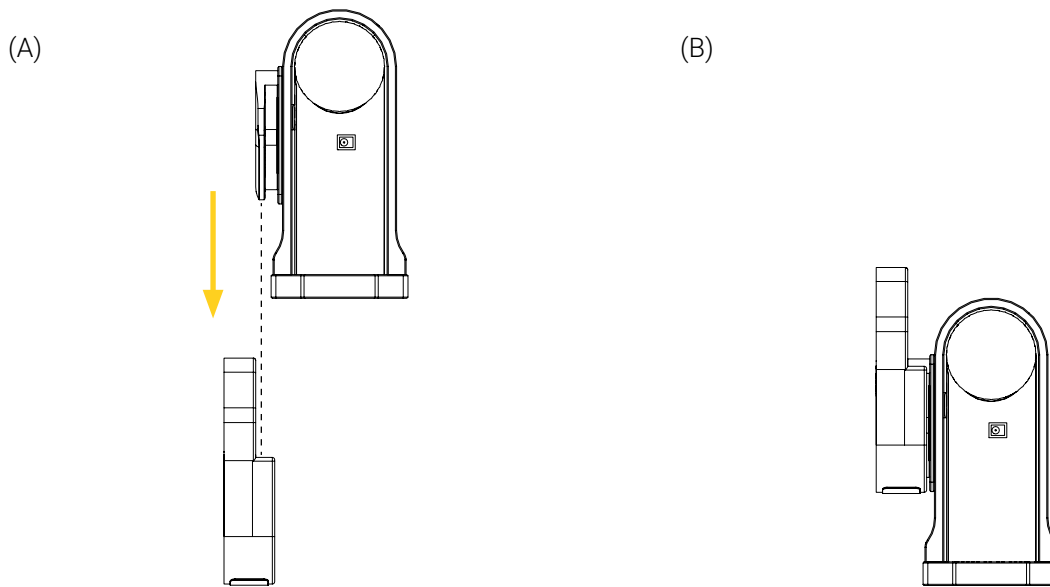
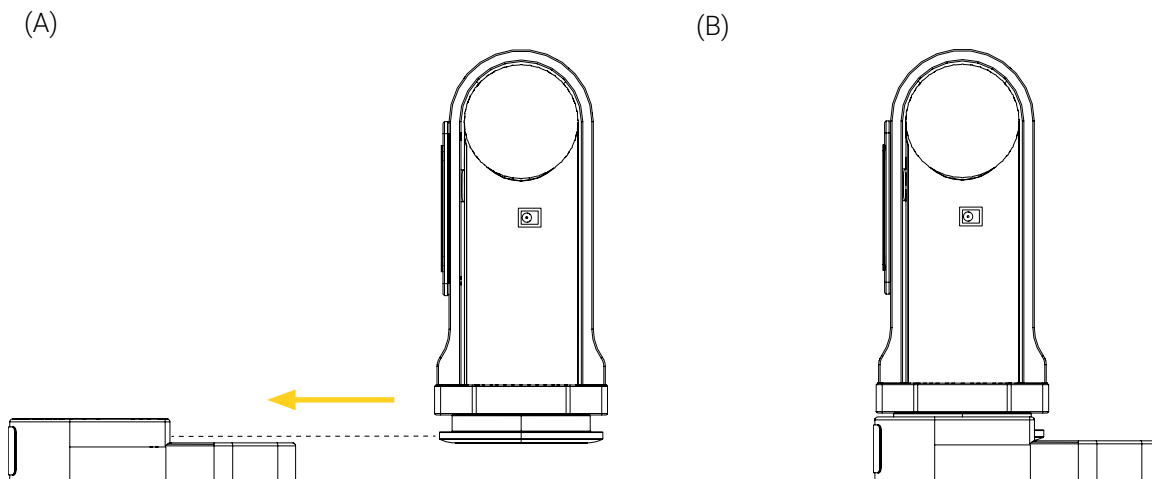

Figure 8: Installing the Bracket Pro Serie 77 FL with a back anti-rotation micro disc in a micro base
Figure 9: Installing the Bracket Pro Serie 77 FL with a bottom micro disc in a micro base
1. Align and insert the anti-rotation micro disc vertically (Figure 8) or micro disc horizontally (Figure 9) in the micro base, paying close attention not to wedge the tubing of the medical device.